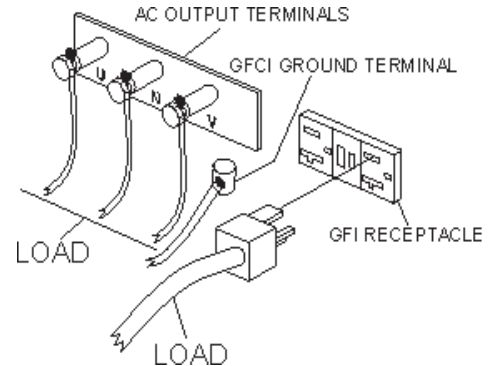

Figure 17. UNV Terminal Lugs (Load)
2. Connect the load to the UNV terminals as shown in Figure 17. These terminals can be found on the front of the generator by lifting the UNV lug cover. It may be necessary to remove the retaining lug that secures the cover. Make sure to tighten terminal nuts securely to prevent load wires from slipping out.